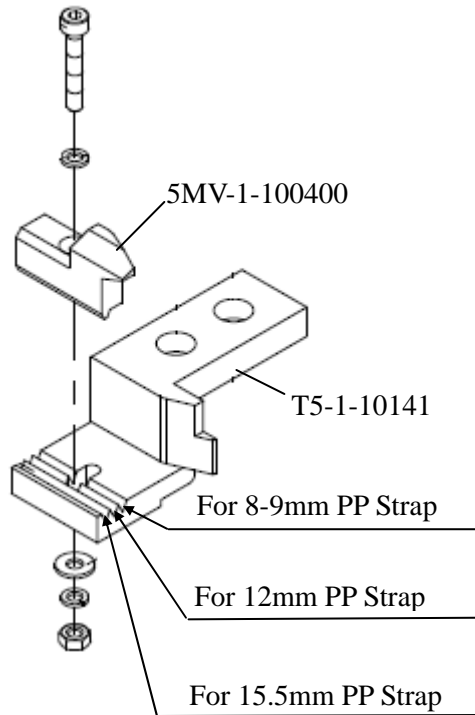

Fig.5.
(2) Strap Width
- Adjust the position of Strap Guide B (5MV-1-100400) according to the strap width. (refer to fig. 5)